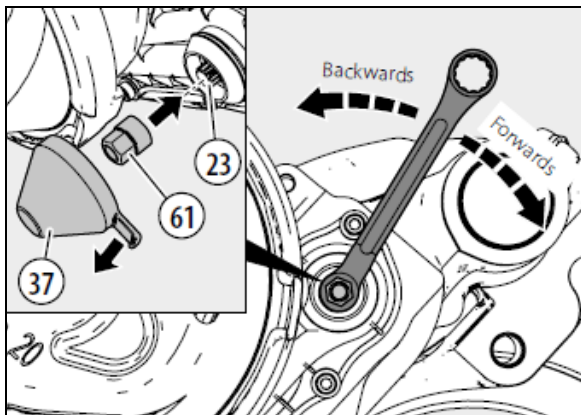

FIGURE 33: REMOVE CAP, INSERT NEW BRAKE PADS, SET THE STARTING GAP
9. Set the starting gap by turning the adjuster (23) with the shear adapter (61) backwards and then forwards (note that when turning backwards a noticeable clicking can be heard and felt), until a value of 0.051 in (1.3 mm) air gap has been achieved (measure between the brake pad and tappets (13)).
11. Check the gap between each of the tappets (13) and inboard pad backplate (12). This must be measured over the whole tappet surface of both tappets using two feeler gages simultaneously (feeler gages must be at least 8 ½ in / 220 mm long) (see Figure 33).